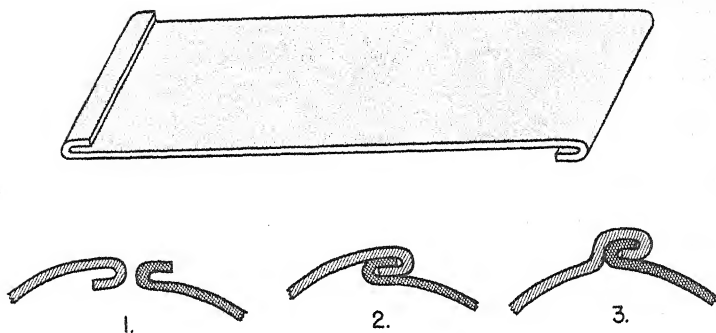

Figure 294. — Making a grooved seam.
2. Turn the sheet end for end, and then turn the sheet over to form the bend for the other half of the lock (similar to the sheet in figure 294).